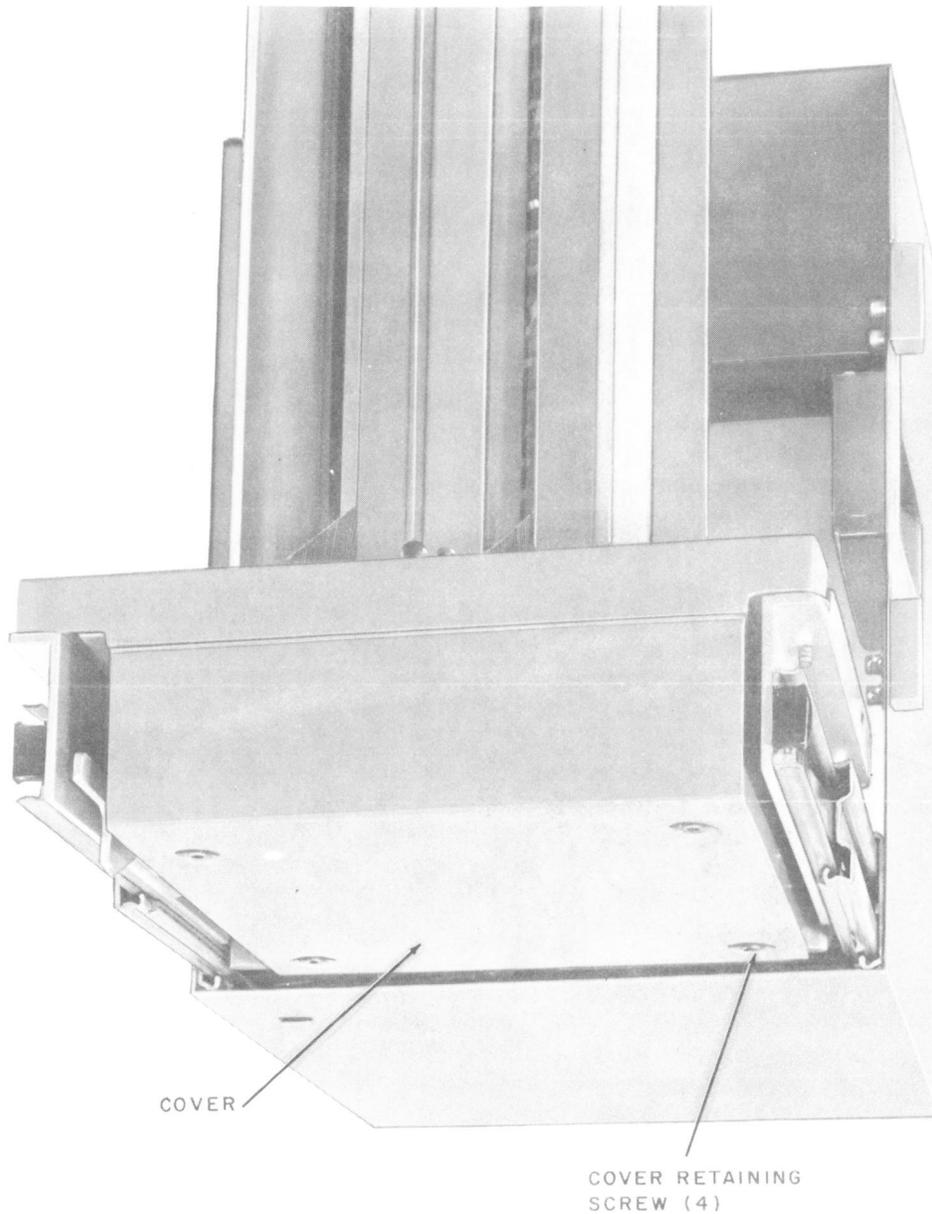

Fig. 7—Bottom View of Recorder Unit Pulled Out on Its Slides
- (1) Shut down the frame in accordance with Section 201-520-301.
- (2) Pull the recorder unit out on its slides (1.05).
- (3) Using the appropriate Allen wrench, remove the cover retaining screws and remove the cover (Fig. 7) from the bottom of the recorder unit.
- (5) After checking the requirement and, if necessary, making the adjustments, remount the cover on the bottom of the recorder unit and secure with the screws (Fig. 7).
- (6) Push the recorder unit back into the drum storage unit.
- (4) After checking the requirement and, if necessary, making the adjustments, remount the cover on the bottom of the recorder unit and secure with the screws (Fig. 7).
- (5) Push the recorder unit back into the drum storage unit.
- (6) Start up the frame in accordance with Section 201-520-301.